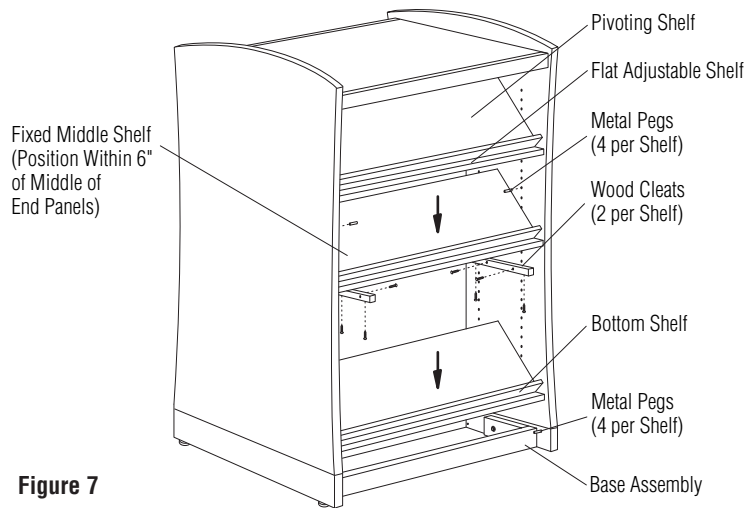

Figure 7
11. Fixed center shelf. For 60", 72", 82" and 96" high units, measure up half way on the end panels. Within 6" of this dimension, determine desired shelf location. Attach wood cleats to the bottom side of the fixed shelf using #8 x 1 1/4" screws. One cleat is needed for each side of shelf. Rest shelf on four metal pegs. Attach fixed shelf with cleats to the end panels using #8 x 1 1/4" screws (Figure 7).
12. Bottom shelf. Insert (4) metal pegs into pre-drilled holes just above the base assembly. Lay bottom shelf with routed side down and align onto metal pegs (routed grooves rest on pegs). Repeat for each unit (Figure 7).
13. Adjustable shelves. Insert (4) metal pegs into pre-drilled holes at desired adjustable shelf heights. Set each shelf onto the metal pegs with routed side down (routed grooves rest on pegs). Repeat for each adjustable shelf (Figure 7).